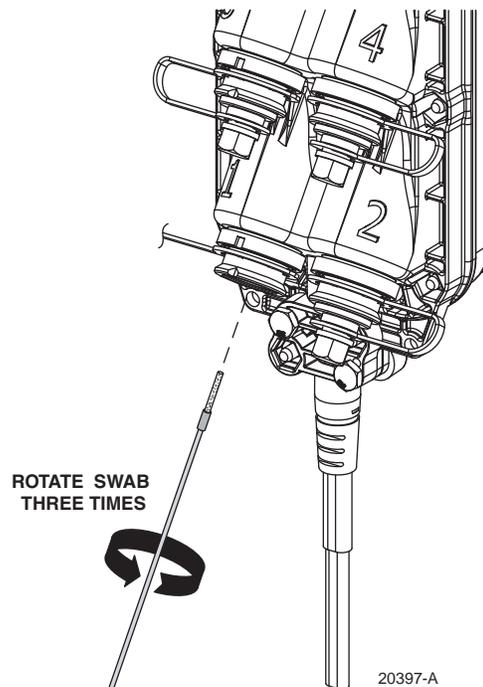

Figure 20. Cleaning Optical Port Connector and Adapter
3. Insert a dry swab into the adapter as shown in Figure 20.